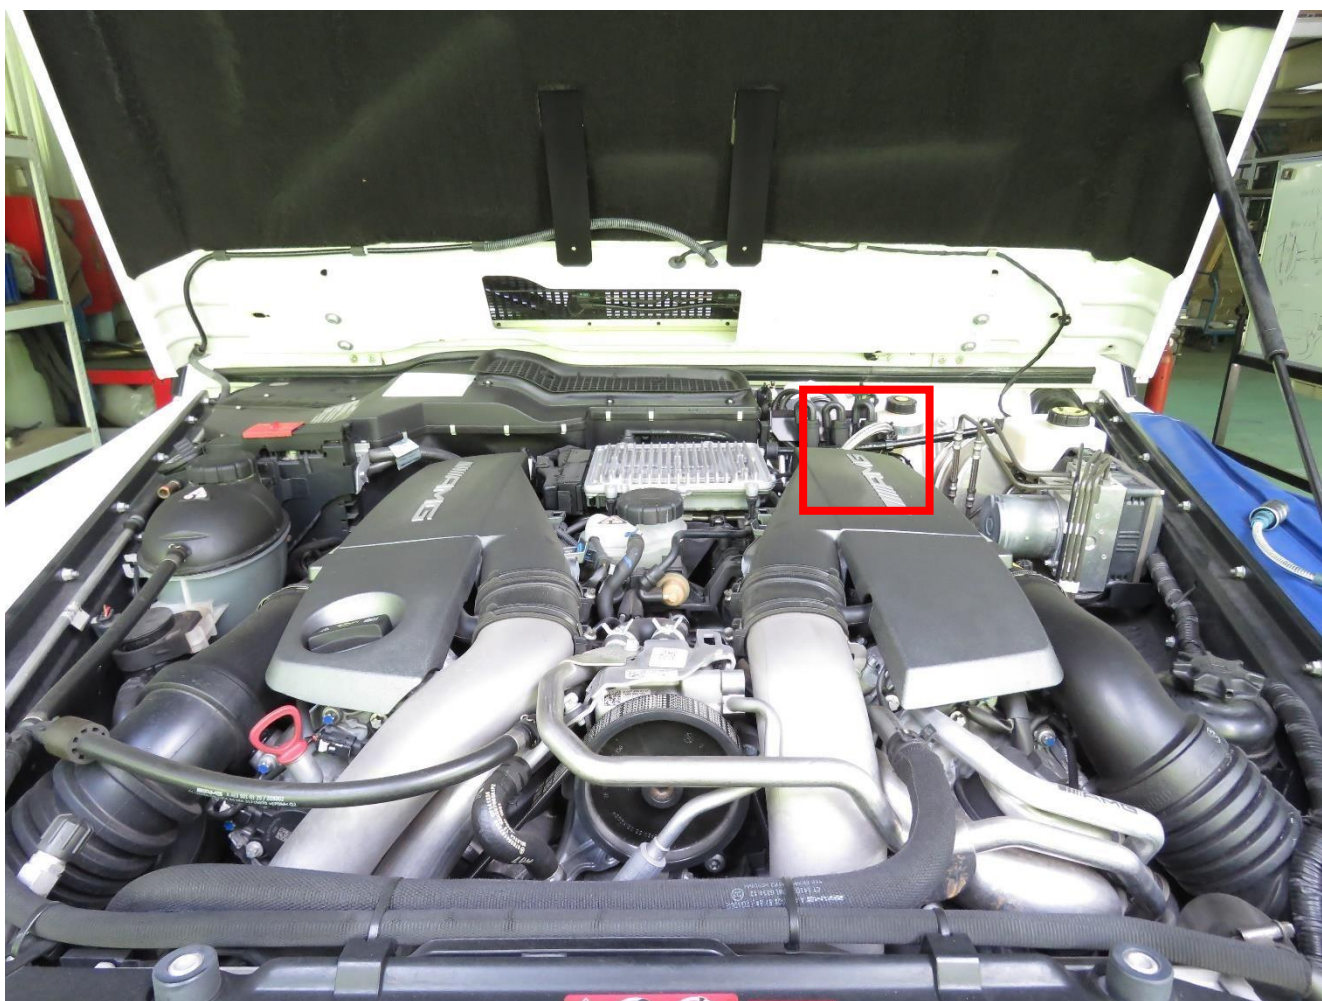

Fig.8
4. When face the front of the car, the vacuum source will be on the upper right corner where the red frame is (Fig .8).